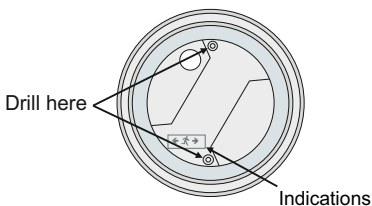

Figure 5
**Step 3.** Drill 2 holes on the base (Figure 5) using a 4mm drill bit in order to permit the retaining screws to pass. Mark these two drilled points on the required mounting location, drill the holes and install the supplied plastic plugs. **ATTENTION!!** Especially for the GR-290/ADR/WP and GR-292/ADR/WP luminaire installation on the ceiling you must align the base with the indications on the luminaire's base.